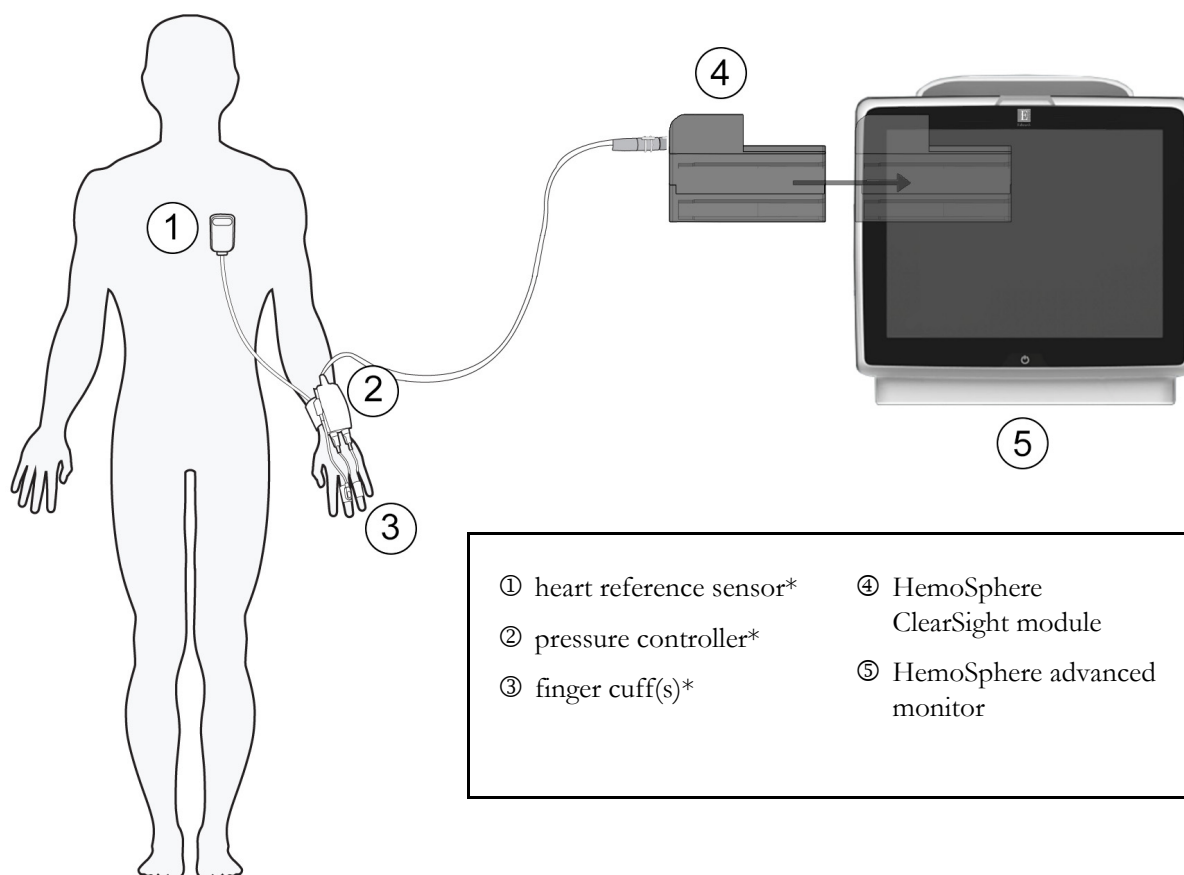

Figure 11-1 HemoSphere noninvasive system connection overview
The HemoSphere noninvasive system is composed of the HemoSphere advanced monitor with ClearSight module and connected pressure controller, heart reference sensor, and compatible Edwards finger cuff(s). See system connections in figure 11-1 on page 174. Accurate measurement of the patient's blood pressure and key hemodynamic parameters is based on the Volume Clamp method, Physiocal method and ClearSight algorithm.
The HemoSphere ClearSight module is compatible with all approved Edwards finger cuffs. See figure 11-1 for an overview of the HemoSphere noninvasive system connections.
NOTE Components indicated by * figure 11-1 legend are APPLIED PARTS as defined in IEC 60601-1 that in normal use necessarily come into physical contact with the patient for the HemoSphere noninvasive system to perform its function.
- 3 Attach the pressure controller cable to the HemoSphere ClearSight module. (figure 11-1)